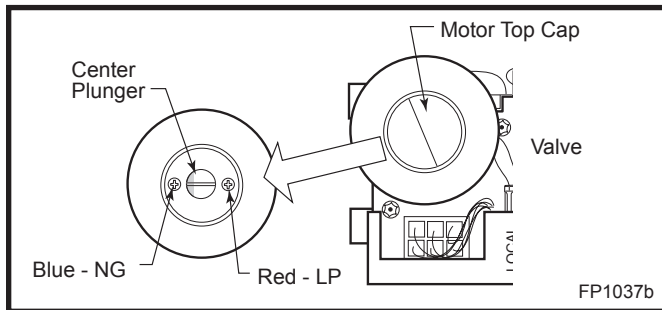

Fig. 66 Depress and turn center plunger.
3. Remove motor top cap using a standard slotted screwdriver. Depress and turn center plunger until arrow points to correct screw. Red for LP and Blue for NG. **NOTE:** Plunger will “snap” into NG position when arrow is close to blue screw. It will not “snap” at LP (Red) position. (Fig. 66)